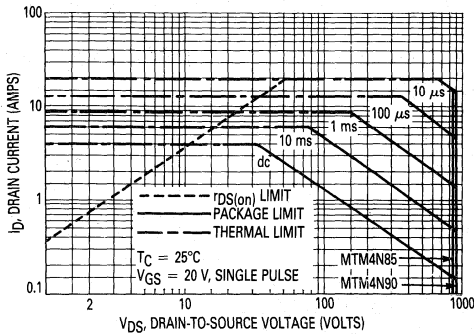

Figure 11. Maximum Rated Forward Biased Safe Operating Area
The dc data of Figures 11 and 12 are based on a case temperature (TC) of 25°C and a maximum junction temperature (TJmax) of 150°. The actual junction temperature depends on the power dissipated in the device and its case temperature. For various pulse widths, duty cycles, and case temperatures, the peak allowable drain current (IDM) may be calculated with the aid of the following equation:
ID(25°C) = the dc drain current at TC = 25°C from Figures 11 and 12